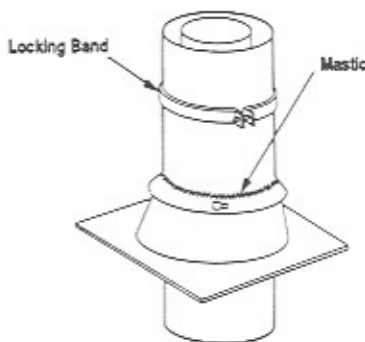

Figure 30
Step 9. Superior locking bands, Models 8LB or 10LB, may be required if the chimney extends too high above the roof flashing. As a general rule, if the chimney extends more than 6' (1.8m) above the roof flashing, the use of locking bands is advisable to strengthen the chimney assembly. Align the locking band at the chimney joint. Locking bands wrap around pipe joints equally covering the joints of both pipe sections. Use nut provided and TIGHTEN snugly. Do not over-tighten as this might damage chimney section (Figure 30).